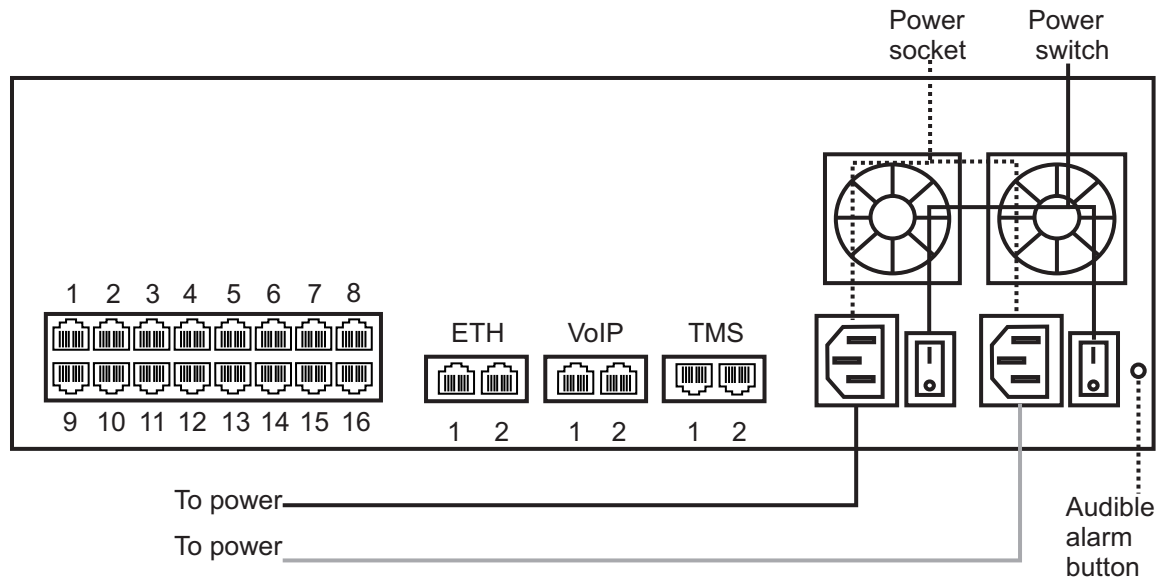

Figure 2.10 AC Power Connection
1. Connect the first AC power cable between the AC connector of the TMP5900 and an AC supply. Connect the second AC power cable between the AC connector of the TMP5900 and a second AC supply source. See figure 2.10 on page 20.
2. It is recommended that each power connector be connected to independent power sources. If the second power supply is not connected to an AC power source, press the green button located at the rear of the unit to disable the audible alarm. See figure 2.10 on page 20.